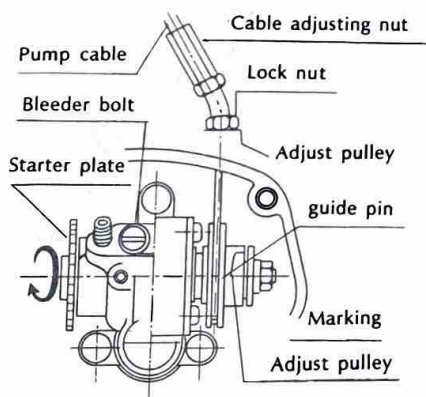

Fig 2-3-7
- 1) Adjust the pump cable so that the marking (arrow) on the Autolube pump adjustment pulley is aligned with the guide pin (see Figs. 2-3-7 & 8.)
Begin by fully closing the accelerator grip, then slowly turning it back again so that the slack in the throttle cable is completely taken up. Next, adjust the pump cable so that the marking on the pump adjustment pulley will be aligned with the guide pin, as shown in Fig. 2-3-7. The point of adjustment is at the end of the cable; just before it enters the case. Loosen the lock nut screw the the adjustor in or out, whichever direction is necessary to obtain the correct adjustment.